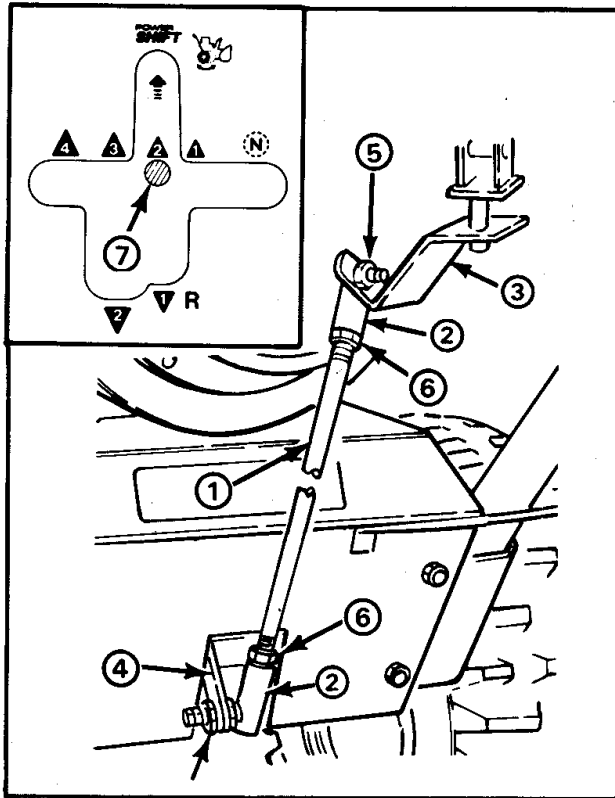

Figure 27
**Note:** If gear shift lever is not aligned with Power Shift slot in control panel (Fig. 27 inset), shift rod length must be adjusted as follows: